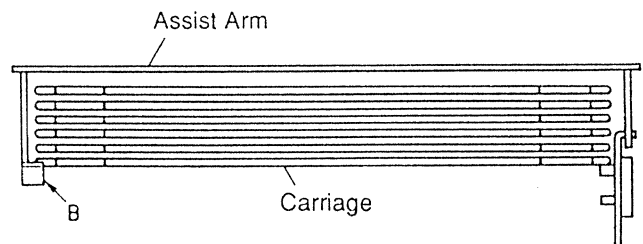

Fig. 2.2.2 Leveling the carriages at the left side
Also, make sure that the lowest carriage is held by the angle "B" of F03 (Assist Arm) as shown in Fig. 2.2.2 so that the carriages are in horizontal position. (Refer to "Leveling the carriages at the left side" in item 2.7.3.)